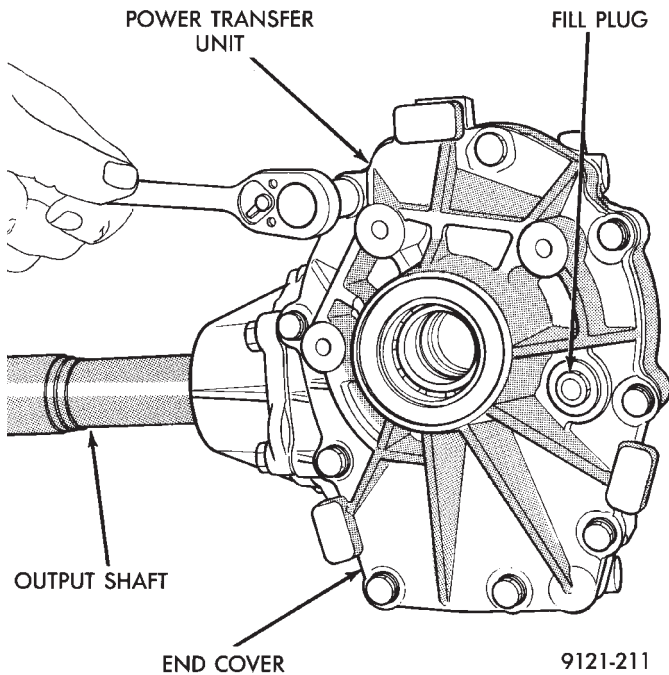

Fig. 1 P.T.U. End Cover Bolts
- (1) Remove P.T.U. end cover bolts (Fig. 1).